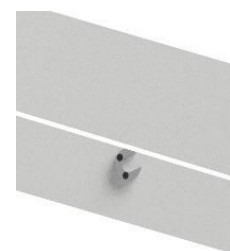

Figure 4
- Click the handle (C) in place over the fabric at the mid-point of the front rail.
- Fit a bracket (F) to the inside of each rafter with the opening angled slightly upwards. See Figure 4.